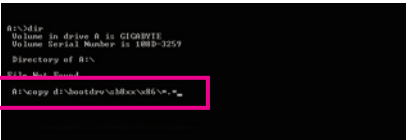

Figure 1
- For the AMD SB850, type (Figure 1): ^(Note 1)